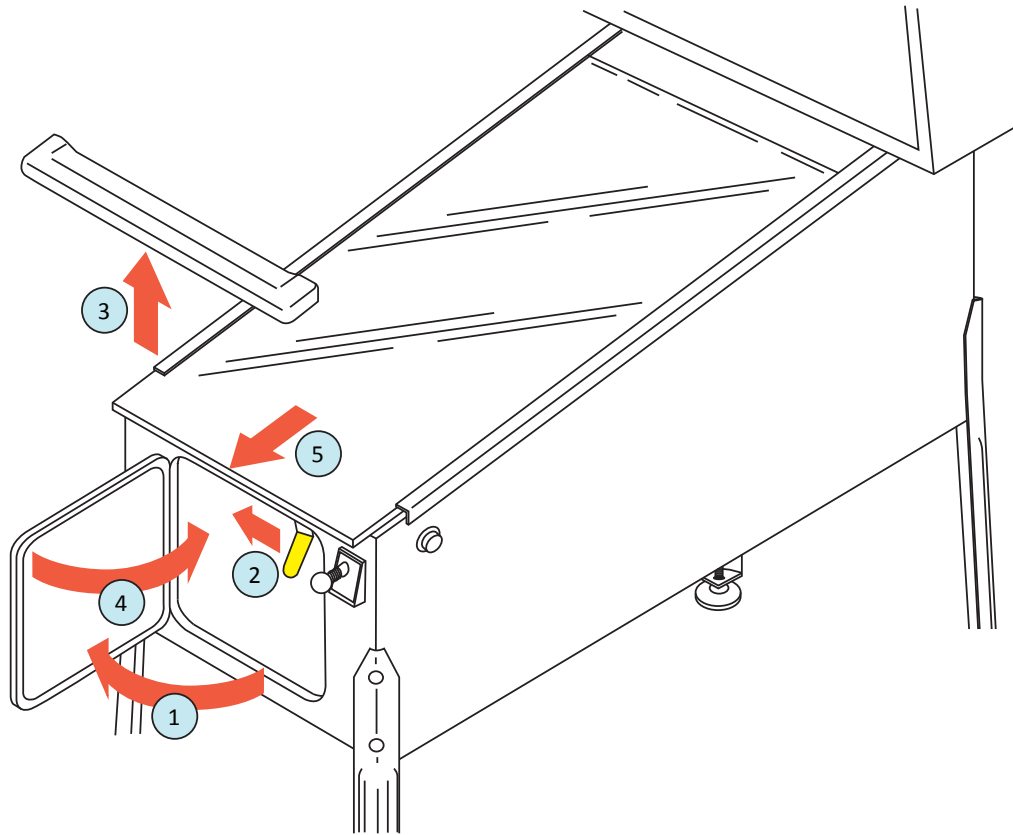

Figure A9. Removing the playfield glass.
10) You will find the coin door keys attached to the ball shooter, on the front of the game. Cut them loose with a pair of wire cutters. Remove the playfield glass: 1) open the coin door, 2) slide the yellow lockdown bar lever to the left, 3) lift the lockdown bar straight up and out, 4) CLOSE AND LOCK THE COIN DOOR (to prevent scratching of playfield glass), then 5) slide the playfield glass off of the front of the cabinet (see figure A9). Carefully set the glass aside.